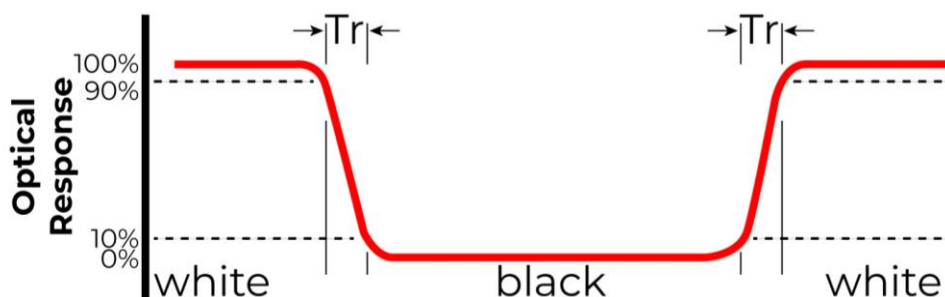

Figure 2. The definition of response time
Note 1. Contrast Ratio (CR) is defined mathematically as below, for more information see Figure 2.
Note 4. Response time is the time required for the display to transition from white to black (Rise Time, T_r) and from black to white (Decay Time, T_f). For additional information see Figure 2. The test equipment is BM-7A.